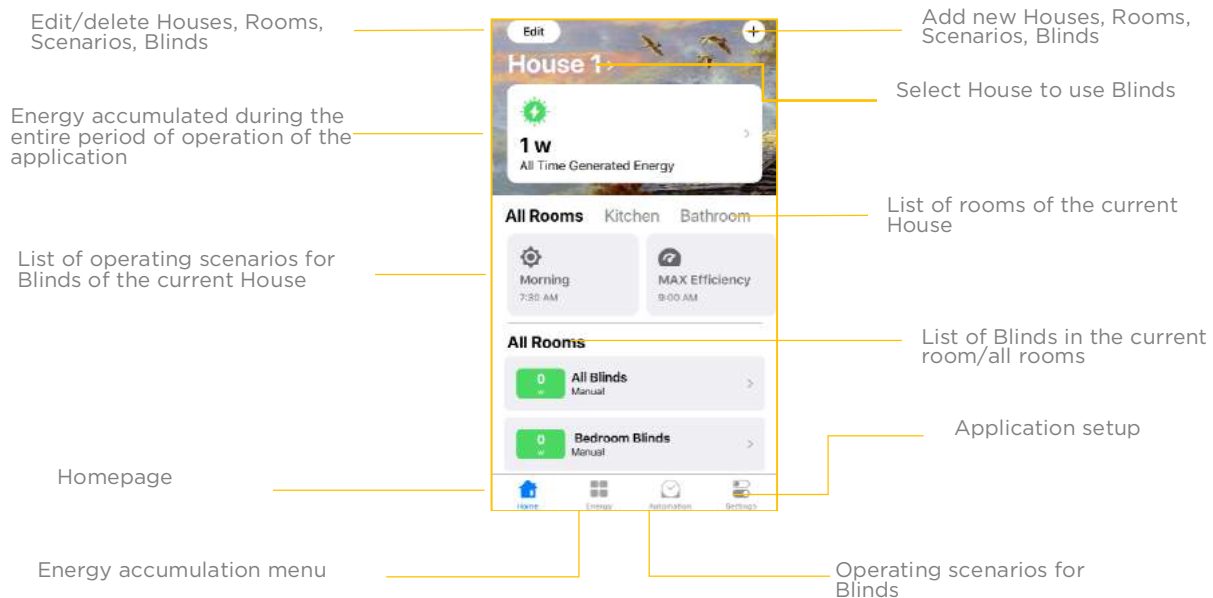

Figure 12
10.3. Overview of application homepage – Home (Fig. 12)